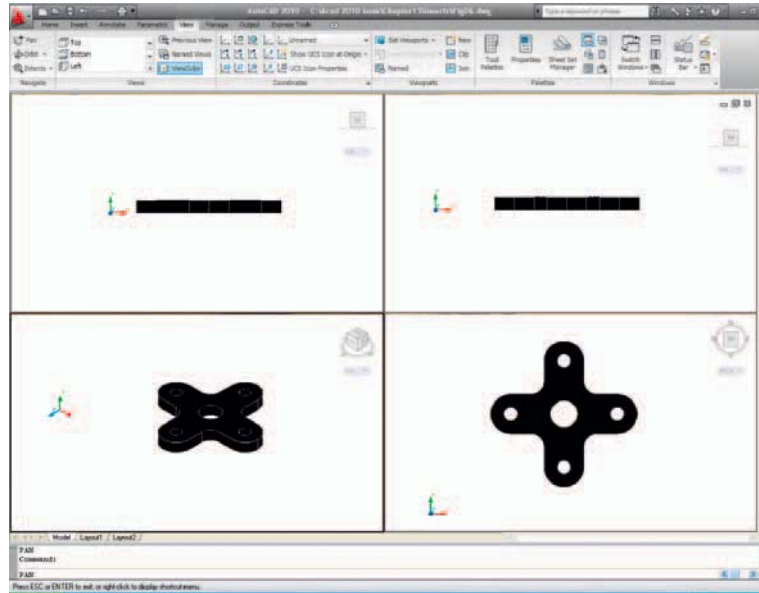

Fig. 13.6 First example – the four views after using the **Extrude** and **Subtract** tools
5. With **Subtract** from the **Home/Solids Editing** panel, subtract the holes from the plate (Fig. 13.6).